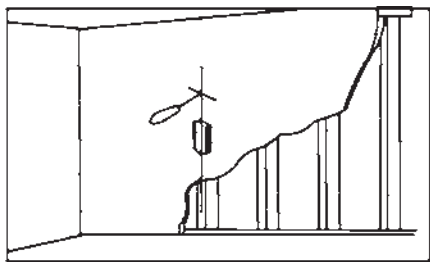

Fig. 3a
## Wood stud walls (Fig 3a)
1. Use a pencil, awl, or a nail to mark the location of the wall stud centers (Fig 3a) after locating the stud with an electronic stud locator. The distance between the marks should not be less than 16 inches (Studs must not be less than 16 inches (40.6cm))